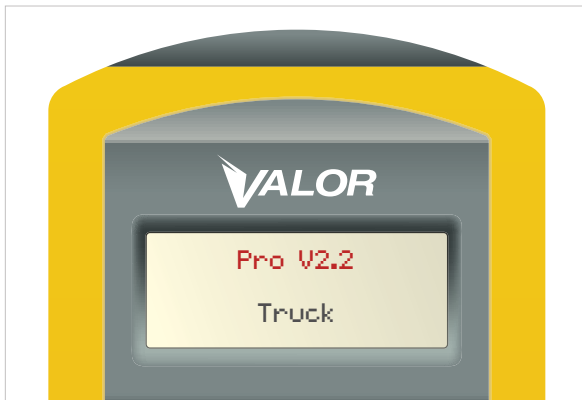

Figure 1A
2. The SmarTool must be updated to the latest software version (Pro 2.2 or higher). To check the software version on your SmarTool simply press the on/off button. The firmware version of the device will display on screen Figure 1A.